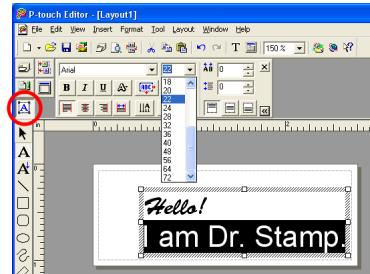

figure 5
- ① Display the Text Properties.
- ② With the Text Input tool, highlight the text to be changed.
- ③ From the “Size” drop-down list, select the desired character size (see figure 5).